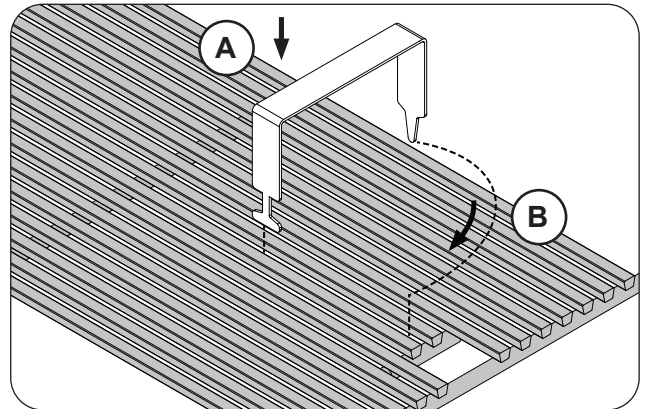
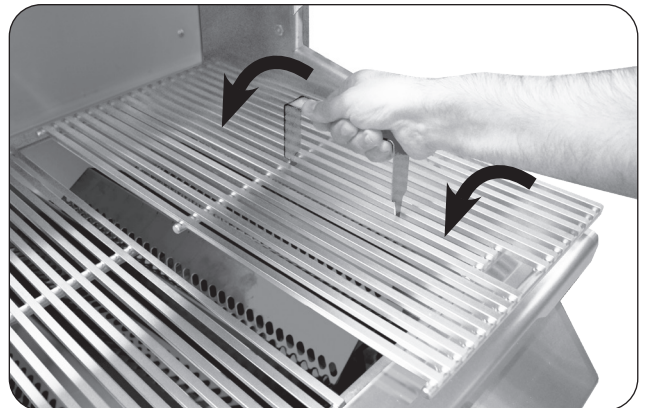

Fig. 26-2 Install cooking grids
Fig. 26-3 Install cooking grids
1. With the prongs facing downward, insert the notched-end of the lifter between two grid rods, then rotate, as shown in Fig. 26-2, A & B.
2. Insert the rear pointed-end of the lifter between the same two rods (see Fig. 26-2, B) and carefully lift the cooking grid and place onto the front and rear grid rests of the grill (see Fig. 26-3). Repeat for all other cooking grids.